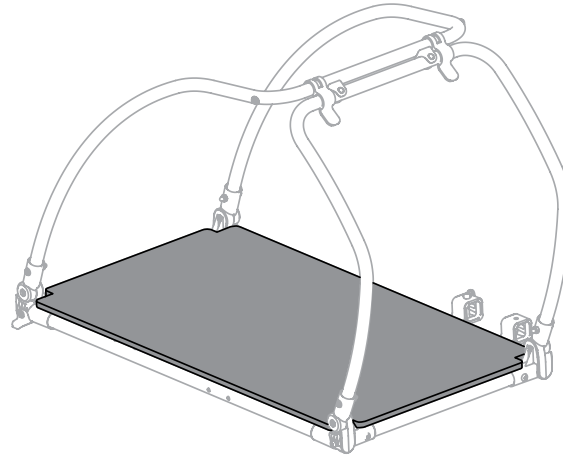

Figure 14A
1. To remove for cleaning, lift floor at inside front and pull out of trailer. (Figure 14A & 14B)